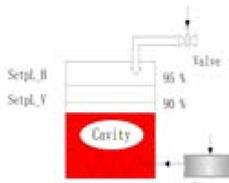

Fig4 Two PID Control Loops
- Here is the example which shows how to control the level of liquid helium in superconducting cavity (See Fig4).